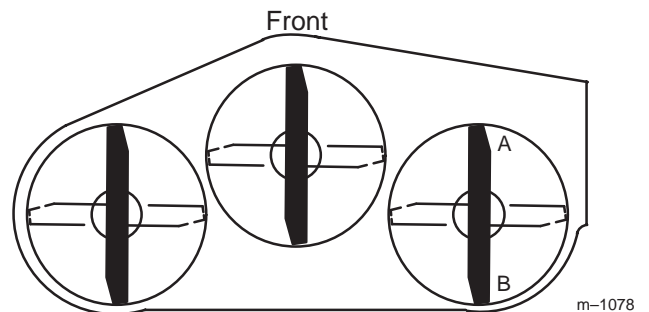
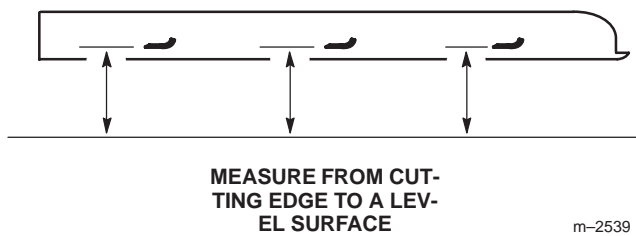

Figure 64
Figure 65
1. Position the **right** blade front-to-rear (Fig. 64).
2. Measure the right blade at the **A** location (Fig. 64), from a level surface to the cutting edge of the blade tip (Fig. 65).
4. Measure the right blade at the **B** location (Fig. 64), from a level surface to the cutting edge of the blade tip (Fig. 65).
6. The mower blade should be a **1/4 to 3/8 inch (6 to 10 mm) lower at position A than at position B** (Fig. 64). If it is not correct, proceed to the following steps.